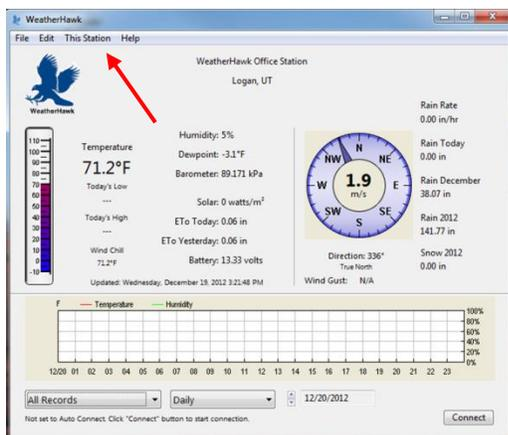

Figure 4a
1. Click on the *This Station* menu and choose *Setup* from the drop down menu (Figure 4a and 4b).